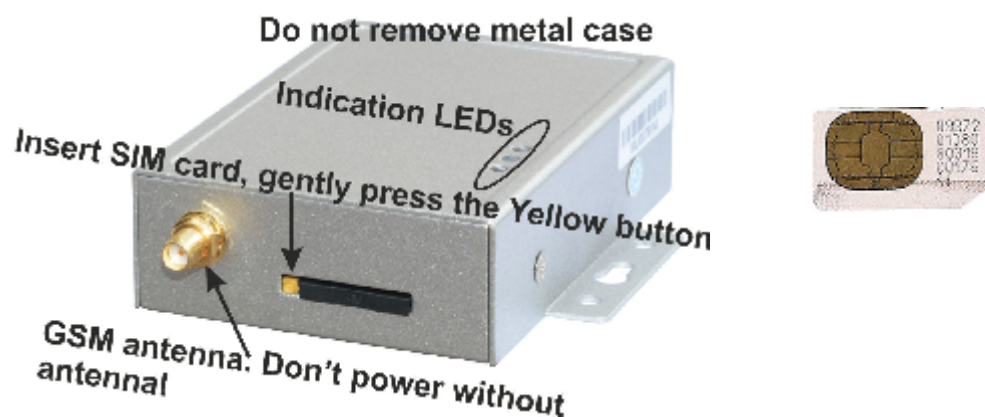

Figure 1: AVG06 SIM card placing and LEDs & SIM card
SIM card parameters. SMS enabled, without voice message service, without charges limits (not must), caller ID is enabled and unlocked, Pin Code disabled. See sample fig. 1
2. Notice LEDs location as shown in figure 1